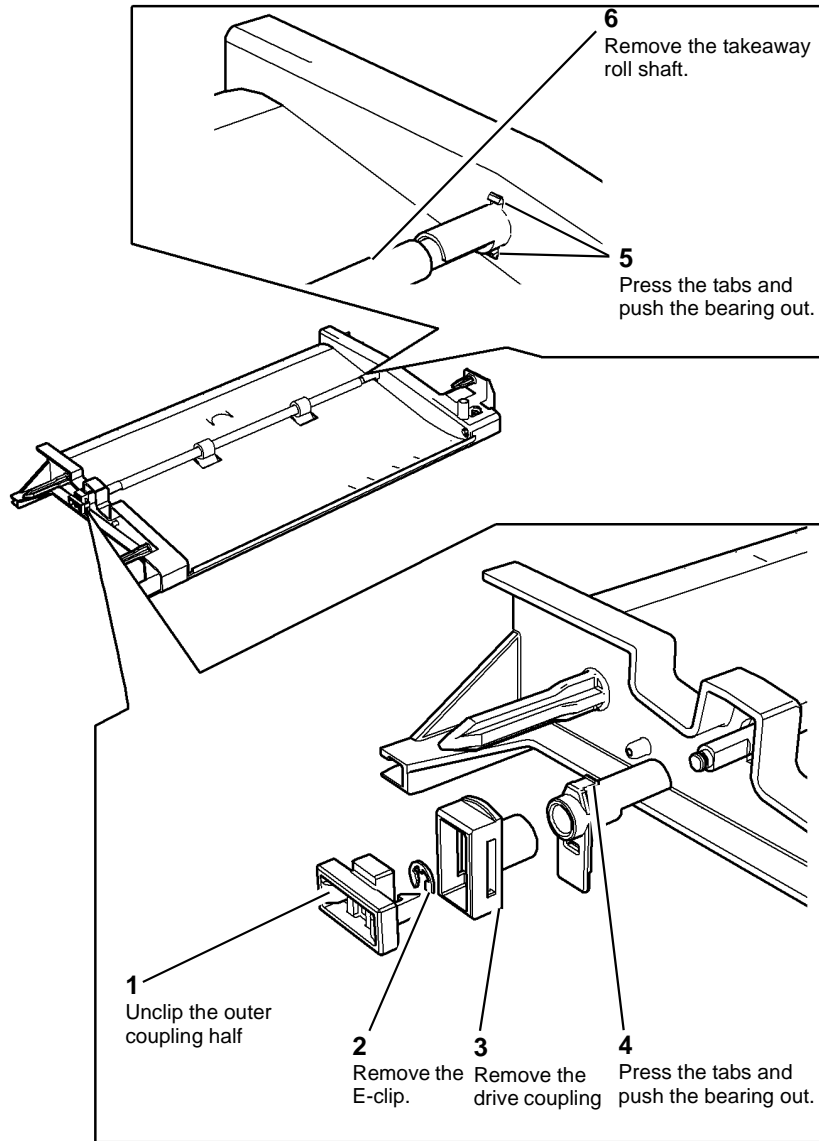

Figure 2 Takeaway roll removal
3. Remove the takeaway roll assembly, Figure 2.